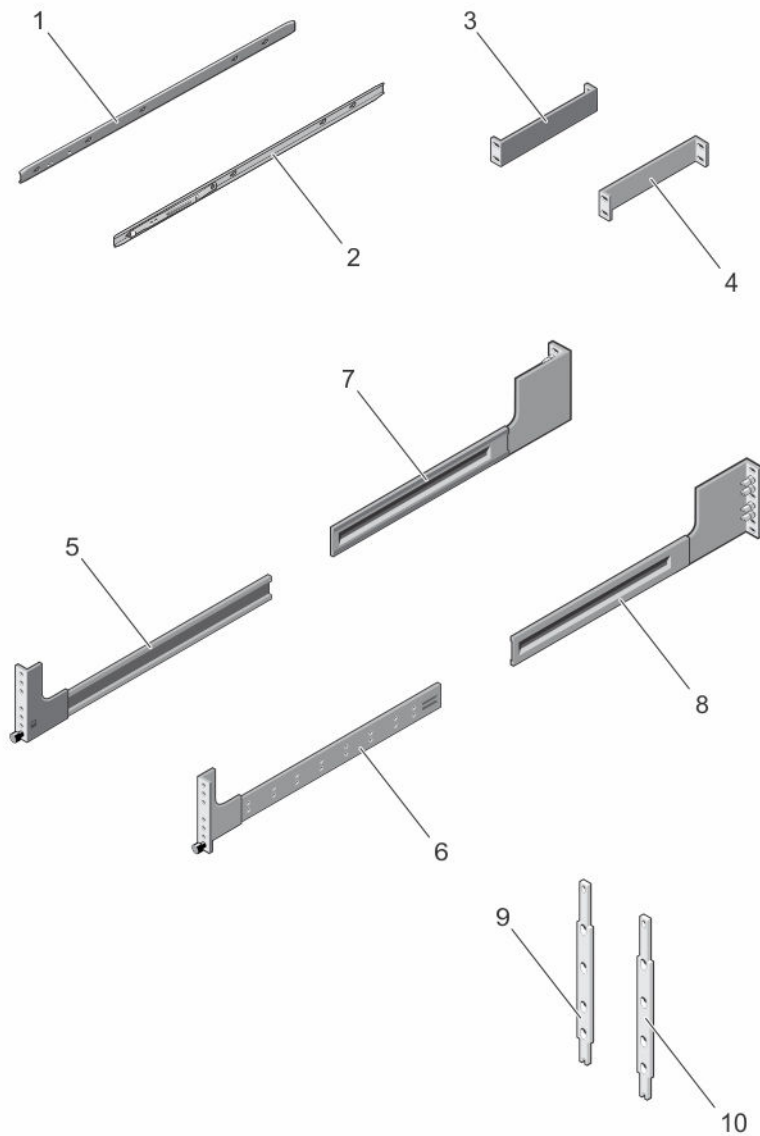

Figure 10. Dell ReadyRails for 2- and 4-Post Racks
- Chassis rails that fit on the left and right sides of a C9010 chassis (items 1 and 2 in Figure 10)
- Left and right rail brackets that fit into the front rails on 2-post racks (items 3 and 4 in Figure 10)
- Front rails for the left and right posts of 2- and 4-post racks (items 5 and 6 in Figure 10)
- Rear rails that fit into the left and right front rails on 4-post racks (items 7 and 8 in Figure 10)
- Two spacers that allow you to secure the chassis flanges flush on the front rack posts (items 9 and 10 in Figure 10)
1. Locate the front rack rails in the Dell ReadyRails kit (items 5 and 6 in Figure 10).
- For a 2-post rack, take out the left and right rail brackets (items 3 and 4 in Figure 10) and slide them into the front rails.
- For a 4-post rack, take out the left and right rear rails (items 7 and 8 in Figure 10) and slide them into the front rails. (The front and rear parts of a rail may arrive pre-assembled.)